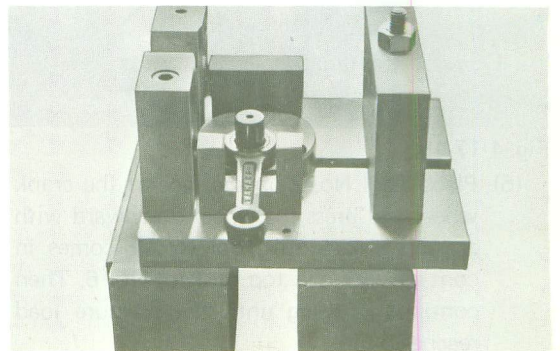

Fig. 4-17-13
- (2) Press the crank pin into one crank wheel, and position the crank wheel in Tool No. 1. Then install the connecting rod on the shaft. (Fig. 4-17-13)